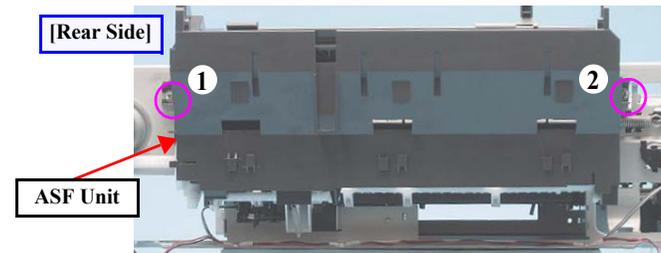

Figure 4-100. Disengaging the Hooks (ASF Unit)
- Tighten the screws in the order given in **Fig.4-100 (p.92)**.